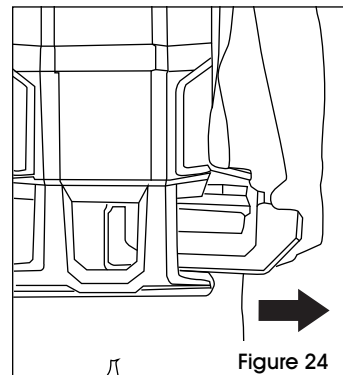

Figure 24
4. To remove battery, grasp the integrated handle while pressing the release button. Slide out from housing by pulling while holding down release button. (See Figure 24)